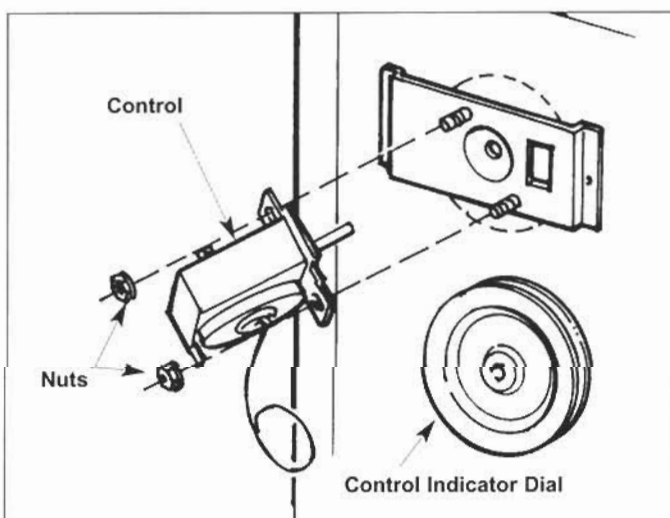

Figure 2-56. Control Assy.
3. The refrigerator control is mounted to the evaporator cover (Figure 2-56). Remove the control knob and two nuts. The control will pull off the mounting bracket.
- The controls are mounted to the evaporator cover (Figure 2-56). Remove the control knobs and nuts. The controls will pull off the mounting bracket.
- The refrigerator control is mounted to the evaporator cover (Figure 2-56). Remove the control knob and two nuts. The control will pull off the mounting bracket.